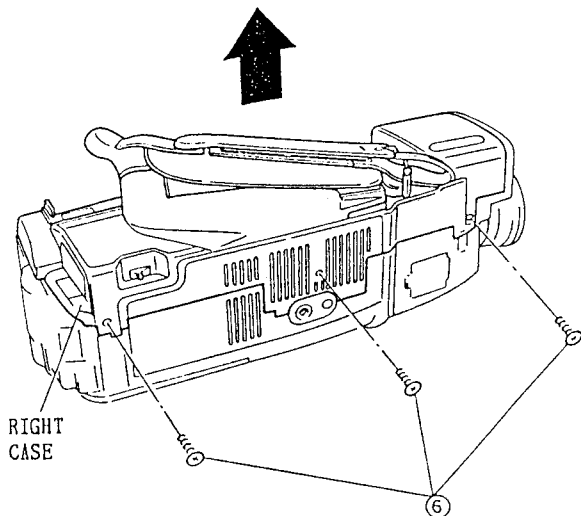

Fig. 2-9
6. Remove three (3) screws holding the right case. (See Fig. 2-9)